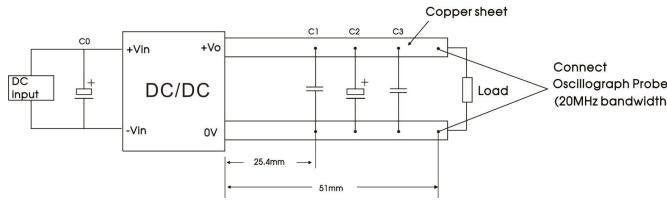
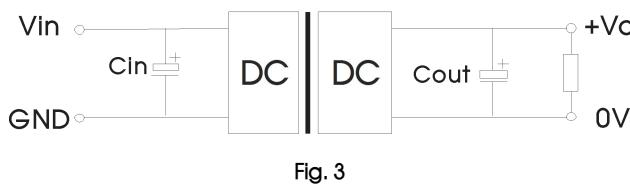

Fig. 2
Fig. 3
① Load regulation for 0%-100% load is ±5%;
② Under 0%-10% load conditions, ripple & noise does not exceed 300mV. The test method of ripple and noise is shown in Fig. 2 parallel plate test method. Peripheral parameters of ripple & noise test are shown in Fig. 3.
All the DC/DC converters of this series are tested before delivery using the recommended circuit shown in Fig. 2., with the probe to copper foil connection as short as possible.
C5	Refer to the C3 parameter in Fig. 2